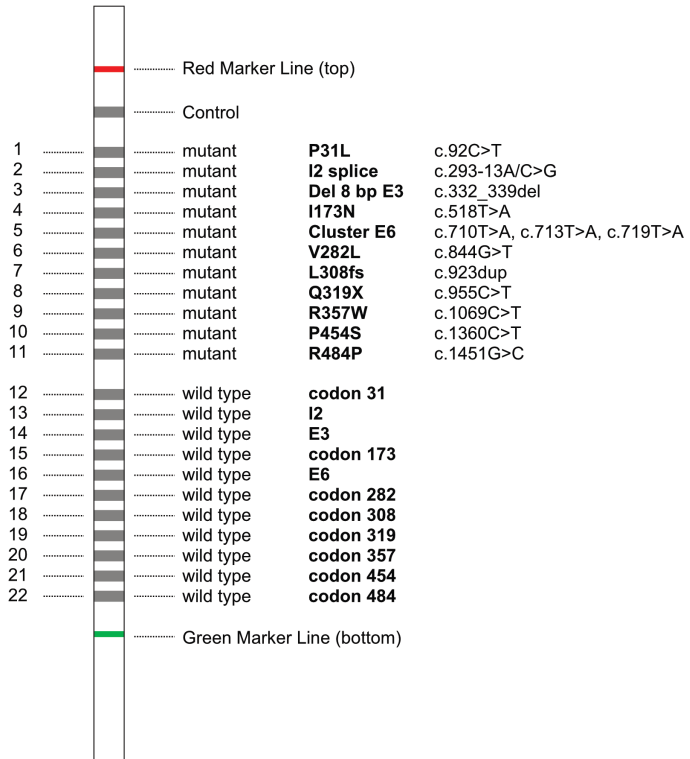

Fig. 1: Teststrip Design
The CAH StripAssay® is based on polymerase chain reaction (PCR) and reverse-hybridization. The procedure includes three steps: (1) DNA isolation, (2) PCR amplification using biotinylated primers, (3) hybridization of amplification products to a Teststrip containing allele-specific oligonucleotide probes immobilized as an array of parallel lines (Fig. 1). Bound biotinylated sequences are detected using streptavidin-alkaline phosphatase and color substrates.